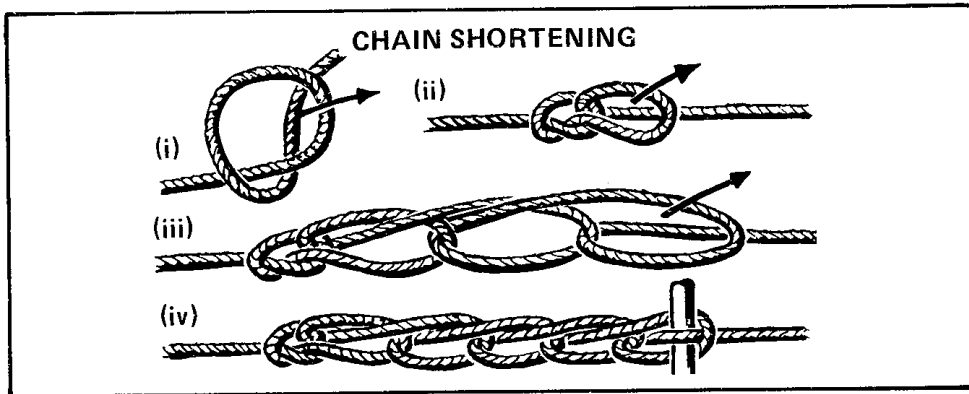

Figure 4-60 Chain Shortening
9. **Chain Shortening** — (See Figure 4-60.) This series of hitches is for shortening the end of a rope; it looks very neat, and is useful when only a short length of rope can be handled at a time. Using light line, it can be used to make a belt or for decorative purposes.